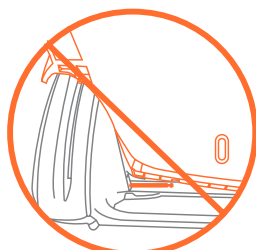

Fig. 5d
**CAUTION: DO NOT** push pin into the base only. Must catch base and backrest (Fig. 5d).